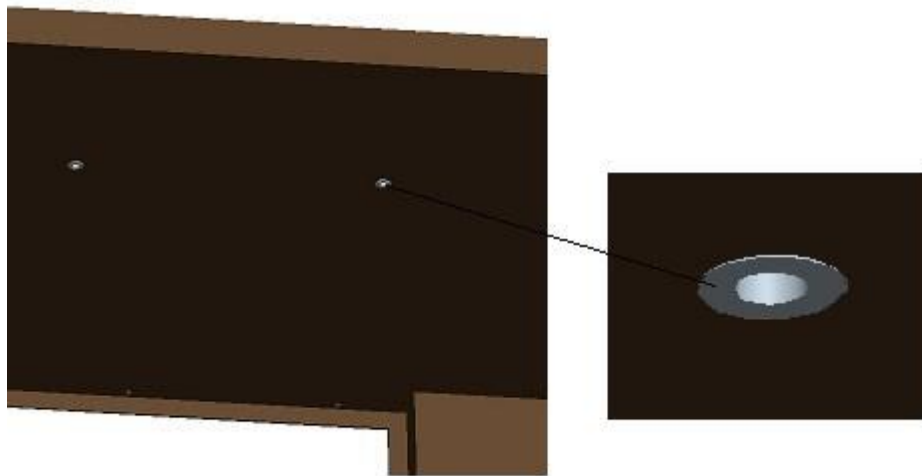

Fig. 2.3 MOUNTING SCREW INSERTS
- Install 2 pieces of 1/4" ID wood thread inserts at the ceiling (see Fig. 2.3).